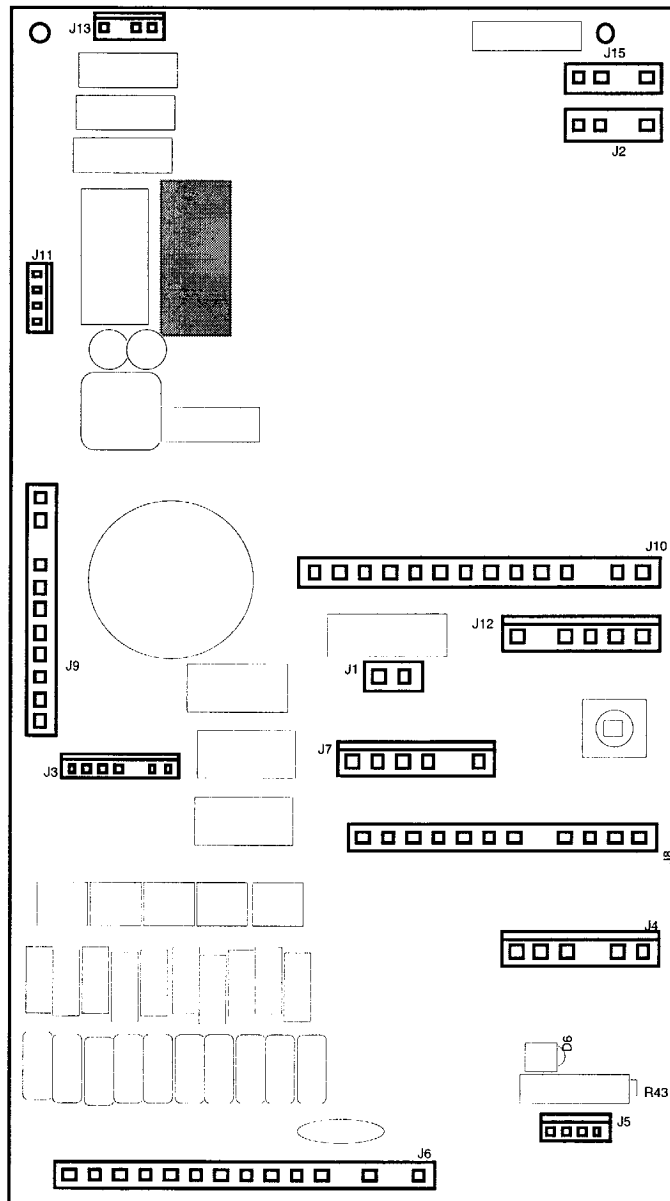

fig1.3
2. Position 1 of the pinout will be indicated with the number one (1). You will find position 1 at one end of most pinout illustrations. All pins, including the key, are numbered from pin 1 to the opposite end of the plug. Following the illustration (figure 1.3) will be each pins purpose and wire number.